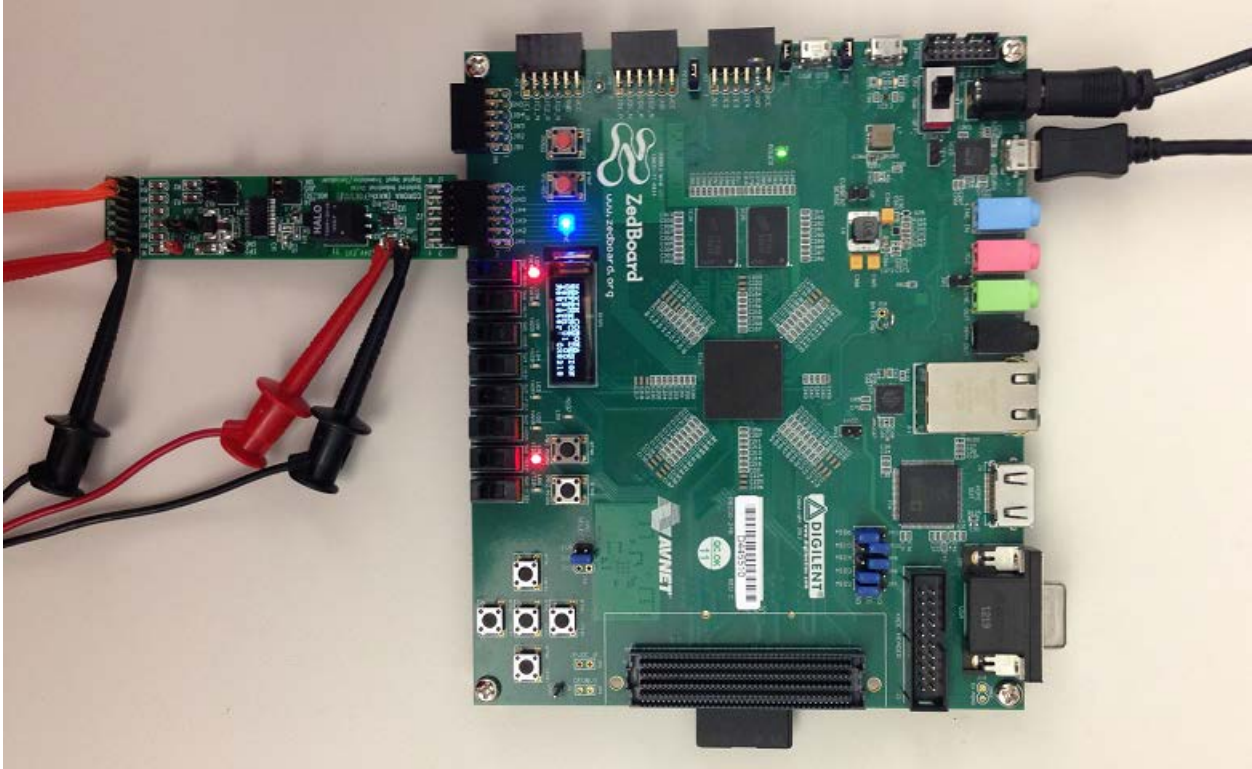
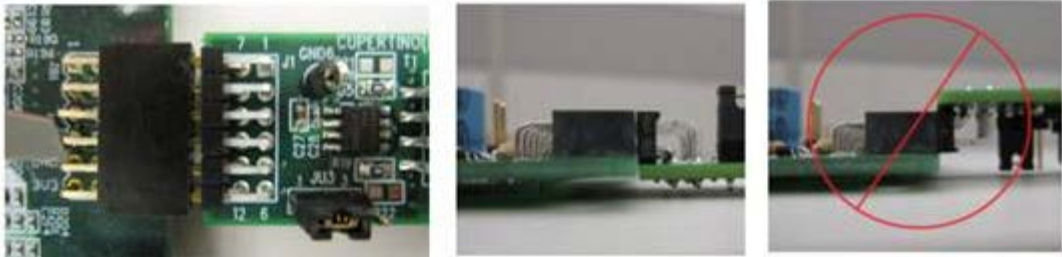

Figure 1. Corona Board Connected to ZedBoard Kit
Figure 2. Pmod™ Connector Alignment
- 1) Connect the Corona board to the JA1 port of a ZedBoard as shown in Figure 1. Ensure the connector is aligned as shown in Figure 2.
1. Connect the Corona board to the JA1 port of a ZedBoard as shown in Figure 1.